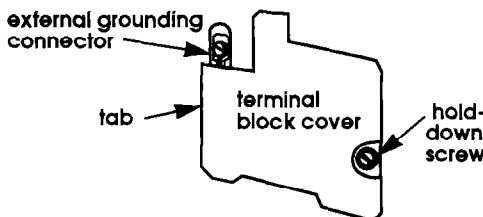

Figure 14
6. Insert tab of terminal block cover into slot of the dryer rear panel (see Figure 14). Secure cover with hold-down screw.